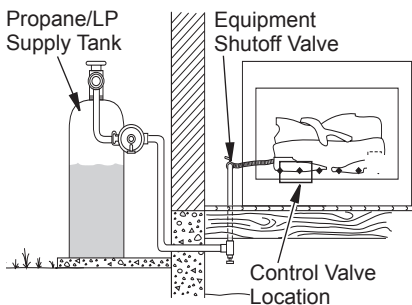

Figure 9 - Checking Gas Joints (Propane/LP Gas Only)
3. Check all joints from gas meter to equipment shutoff valve for natural gas or propane/LP supply to equipment shutoff valve for propane/LP (see Figure 9 or 10). Apply noncorrosive leak detection fluid to all joints. Bubbles forming show a leak.
4. Check all joints from equipment shutoff valve to gas control (see Figure 9 or 10). Apply noncorrosive leak detection fluid to all joints. Bubbles forming show a leak.